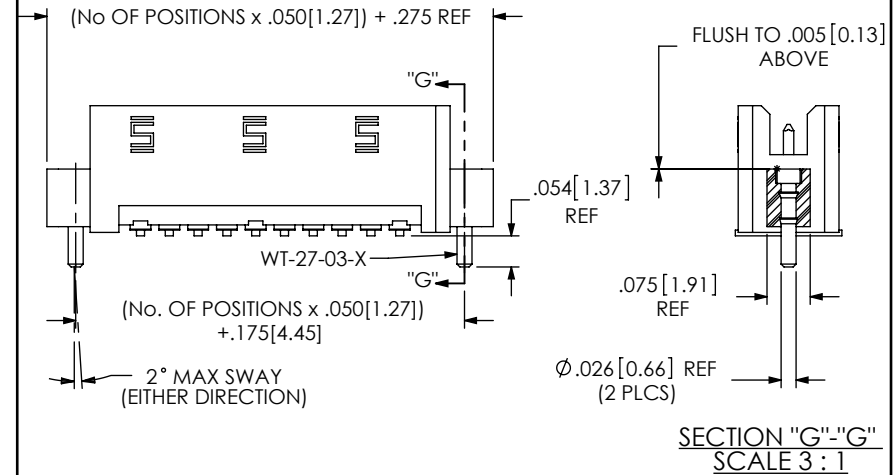

FIG 8
- \*\*SN: SOLDER NAIL (USE WT-27-03) (NOT AVAILABLE WITH -A, -LC, OR -WT OPTIONS) (SEE FIG 8, SHEET 3)